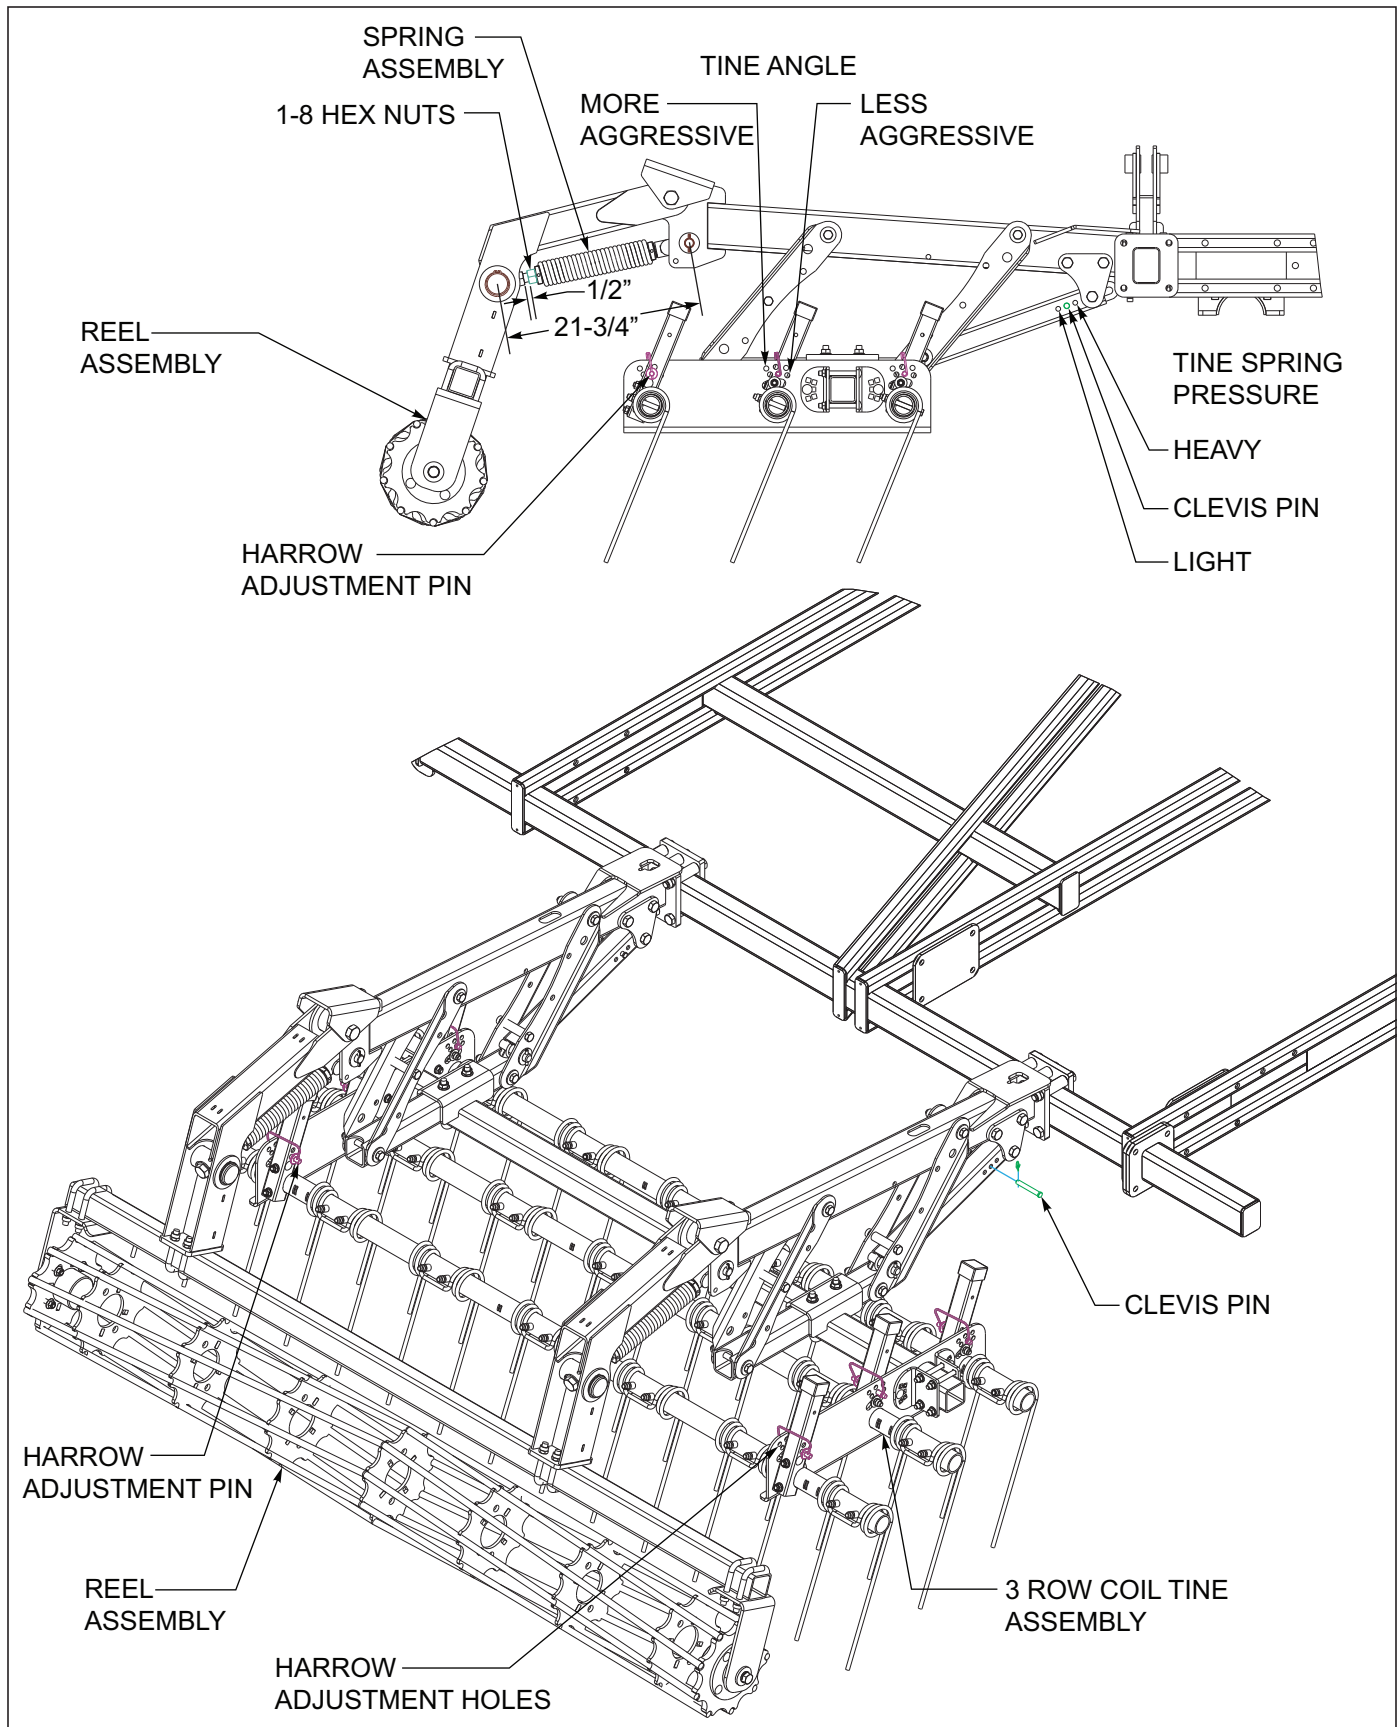

Figure 4-10: 3 Row Coil Tine and Reel Adjustments
3. In general tine harrows have better capabilities for handling more residue and wetter conditions. When operating the coil tine harrow, a more vertical tine tooth angle will make the harrow more aggressive. A lower/flatter tine angle will make the harrow less aggressive but will handle more residue and wetter conditions. To change the tine angle, raise the harrow off the ground. Remove the harrow pin from both angle adjustment tubes per tine gang bar tube See Figure 4-10. Rotate the angle adjustment tubes forward (less aggressive) or rearward (more aggressive) and reinstall both spring clip pins. Repeat the tine adjustment for each tine gang bar tube and harrow section.
4. Each coil tine harrow may be adjusted for spring pressure as well See Figure 4-10. Raise the tine harrow off the ground. Adjust the spring pressure the same for both harrow arms on each section. Remove the clevis pin from the spring tube and install in a heavy or light setting as needed. **Excessive spring pressure and tine angle can overload harrow spring.**
5. To adjust the reel height, loosen the locking hex nut against the threaded spring end See Figure 4-10.